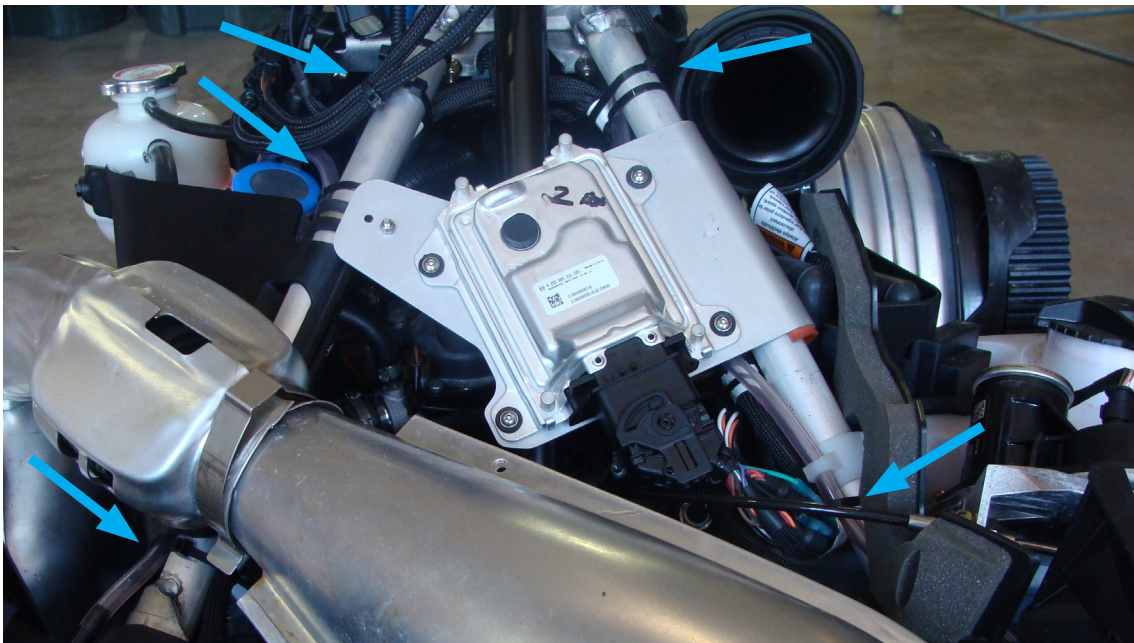

Figure 24
4. Route the wiring along the aluminum frame tube and attach two cable ties (Figure 24).